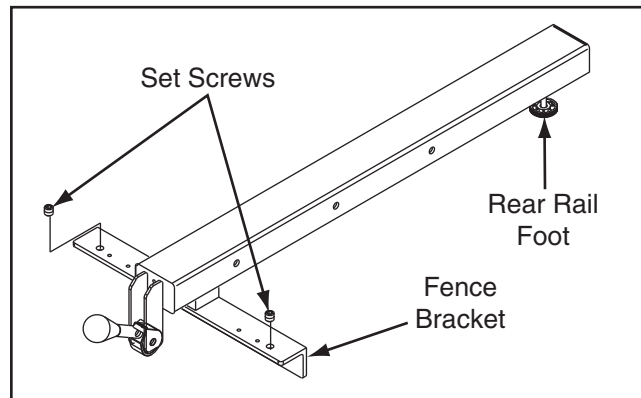

Figure 86. Fence components used to adjust fence height and squareness to table.
3. Adjust the set screws (**Figure 86**) on top of the fence bracket to ensure the fence face is 90° to the table.
Note: If the front end of the fence needs to be adjusted up or down, use the set screws from **Figure 86**; however, turn them in even increments and recheck the squareness afterwards.